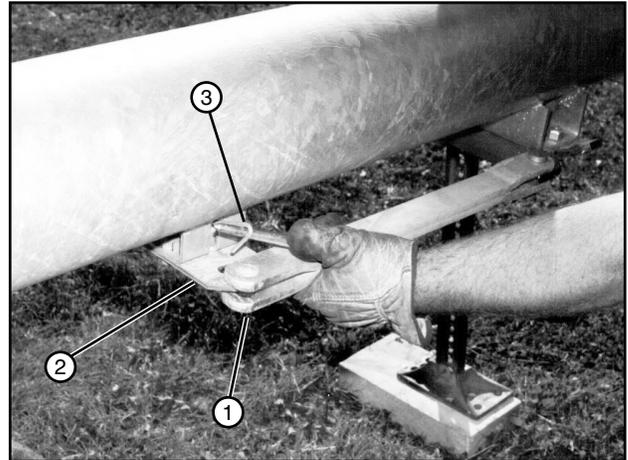

Figure 31-1 1. Tow Link Bar
4. Rotate tow link bar into the tow link carrier until the carrier spring latches into the hole in tow link bar. See Figure 31-1.